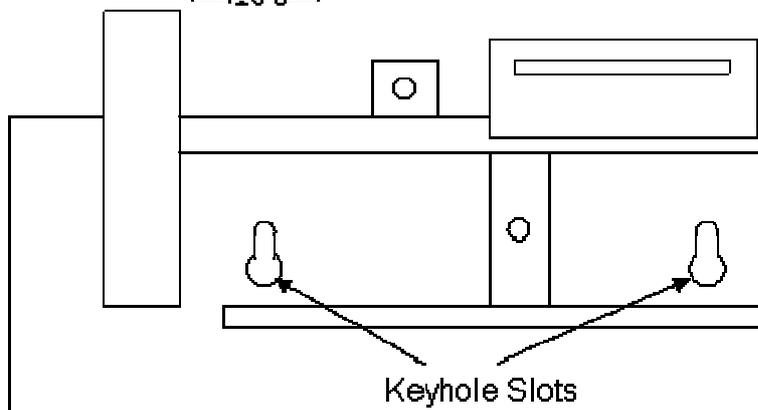

FIGURE 8
- 2 Remove the fan box cover. Remove the 2 lower self tapping screws and loosen the 2 pan head screws located in the key hole slots (See Figure 8) which hold the fan carrier to the wall box and lift away the fan carrier assembly, together with it's gasket and place to one side.